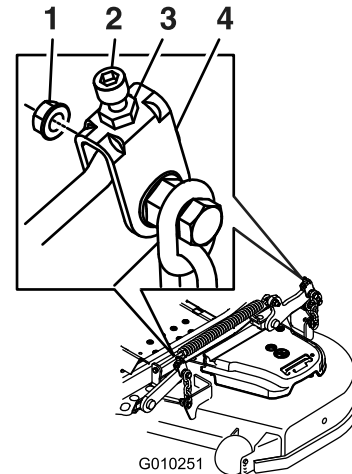

Figure 87
10. If needed, loosen the whizlock nut on the side of the yoke and the jam nut on top. Fine tune the screw adjuster by turning it to get 3 inch (7.6 mm) height (see Figure 87).
16. Fine tune the screw adjuster by turning it to get 3-1/4 inches (8.3 mm) height (Figure 87).